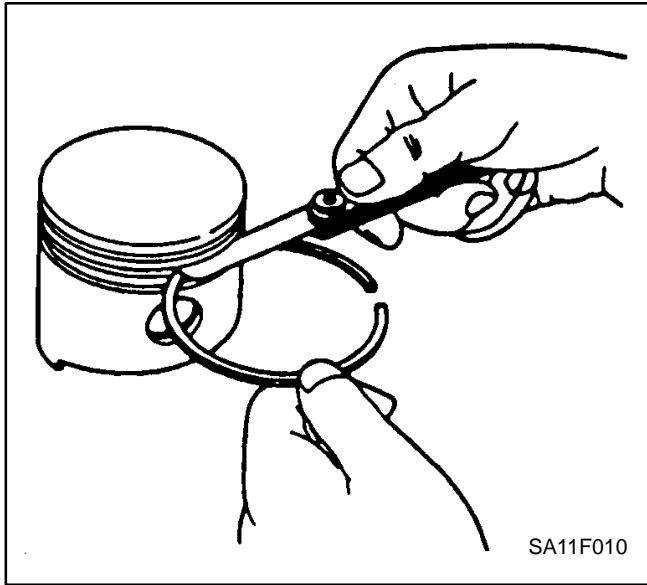

FIGURE 9-16. CHECKING RING LAND
6. Assemble the connecting rod so the casting mark faces the flywheel (Figure 9-16). Also align the marks on the cap and the connecting rod.
Piston Inspection: Inspect the piston for fractures at the ring lands, skirt, and pin bosses. Check for wear at the ring lands using a new ring and feeler gauge as shown in Figure 9-16. Replace the piston when the side clearance of the rings exceeds the specified limit.